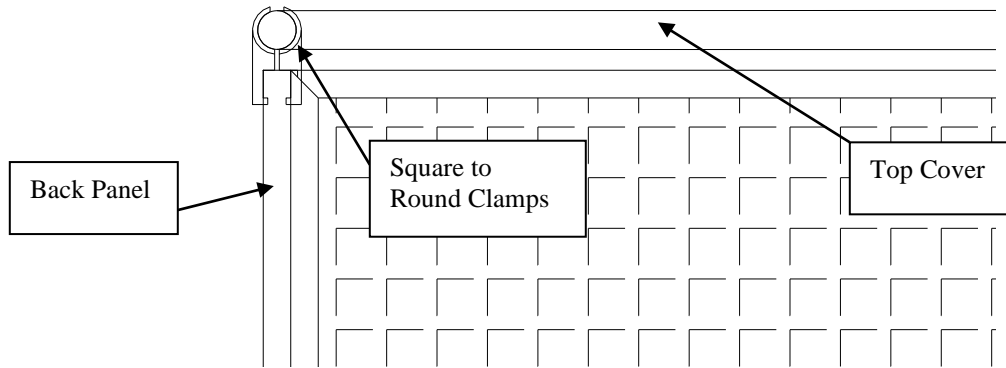

Figure 22.
- Using square to round clamps, 5/16"-18 x 1-3/4" galv. carriage bolts, and 5/16"-18 nuts, connect the back tube of the top covers to the top of the back panels. Place clamps approx. 3" from the division panels. See Figure 22.